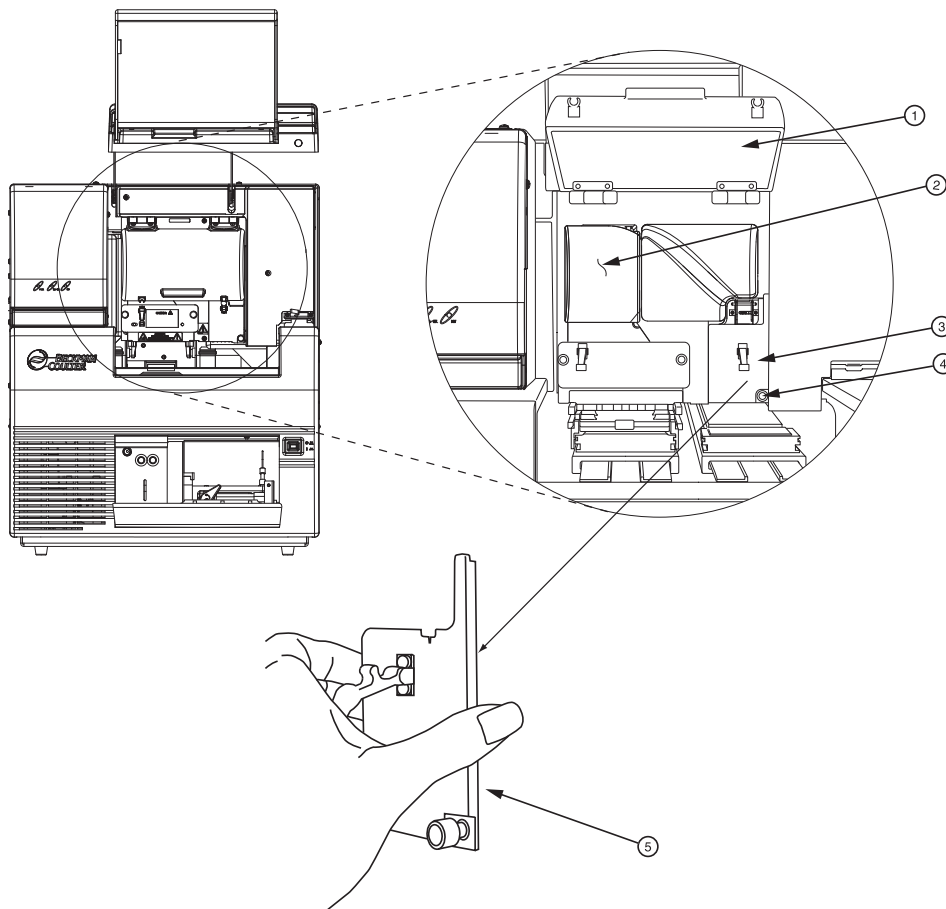

Figure 9.47 Manifold Access Cover
5. Unlatch the two rubber latches holding the Capillary Temperature Control Cover and lift it to the vertical locking position (Figure 9.47).